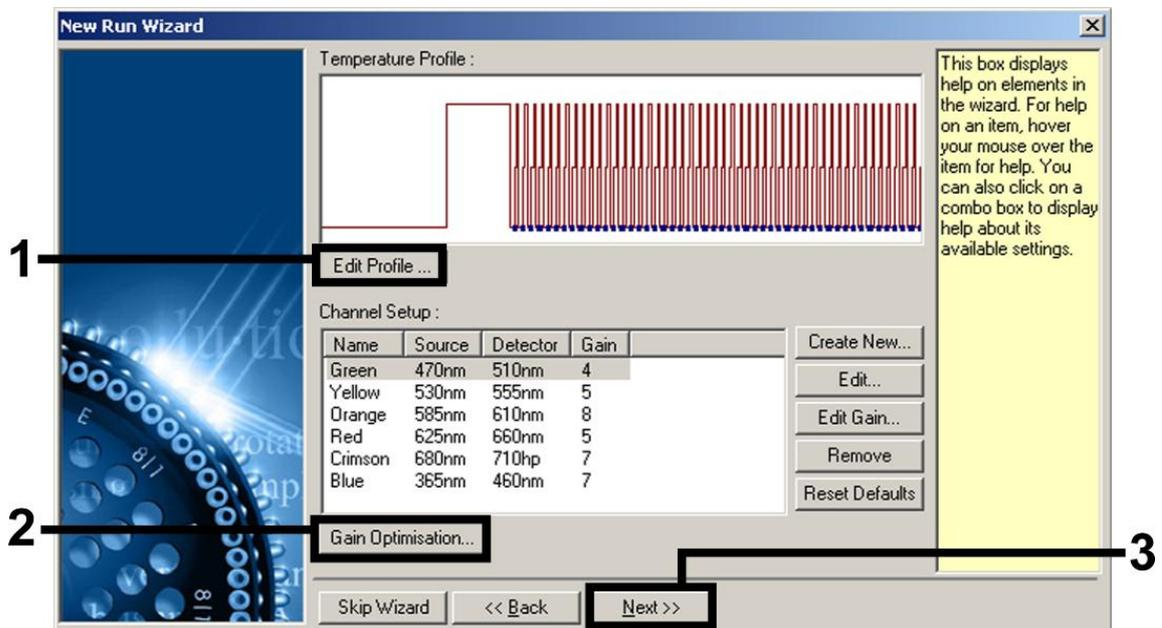

Figure 5. Editing the profile.
- Click the “Edit Profile” button in the next “New Run Wizard” dialog box (Figure 5), and program the temperature profile as shown in Figures 6–7.